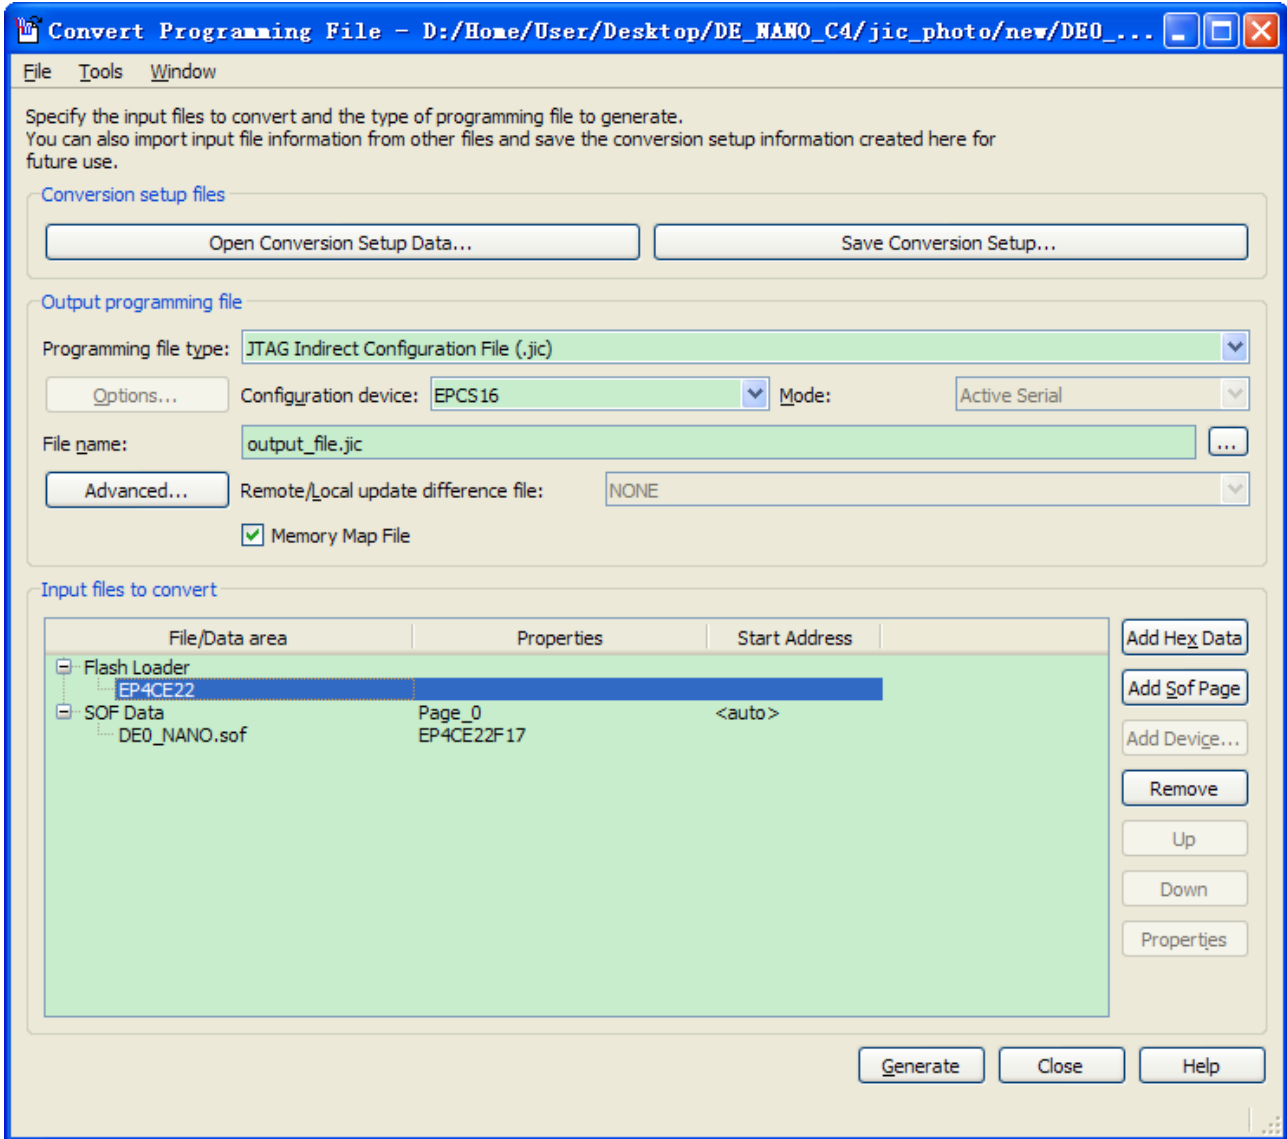

Figure 9-4 Convert Programming Files Page
12. Click OK. The **Convert Programming Files** page displays, should look like **Figure 9-4**.